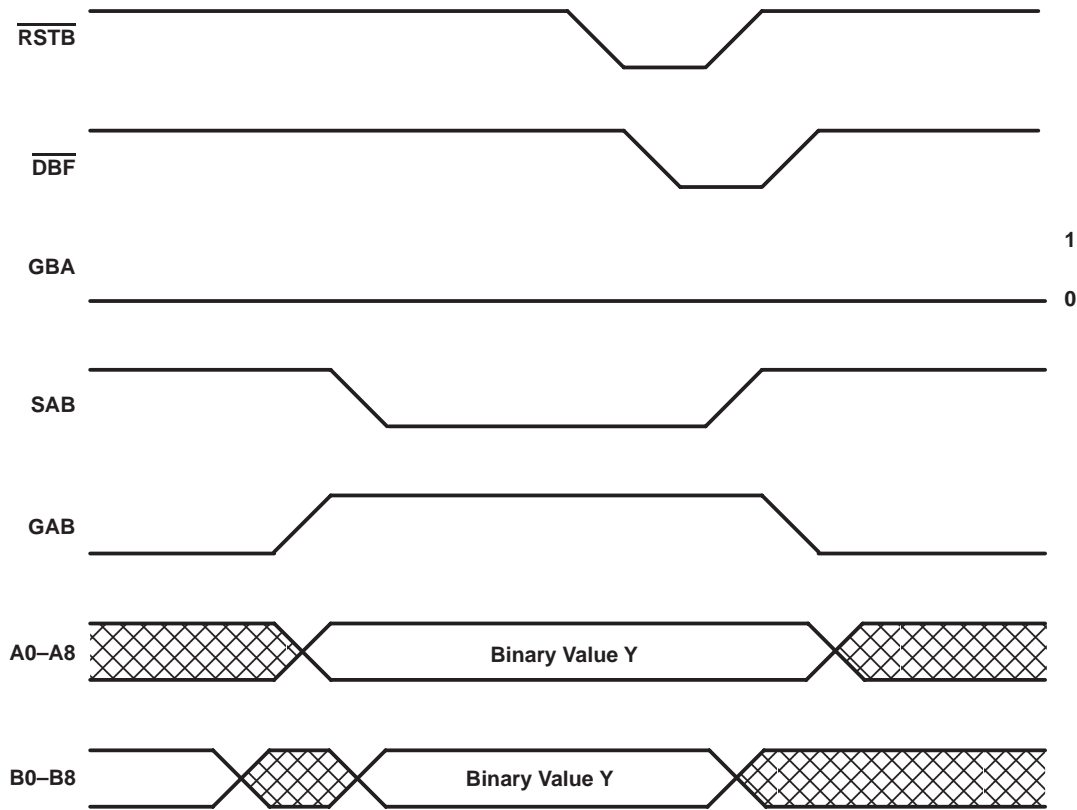

Figure 5. Programming AF/AEB Flag of FIFOB From Port A
Programming both flag offset values from either port is possible using real-time select. Figure 5 is a timing example of programming AF/AEB from port A. To program the AF/AEB offset value (Y) from port A, the binary value for Y is on A0–A8, \overline{SAB} is low, and GAB is high. With this configuration, the port-A data appears on the inputs of FIFOB and a falling edge of \overline{DBF} stores the Y value.